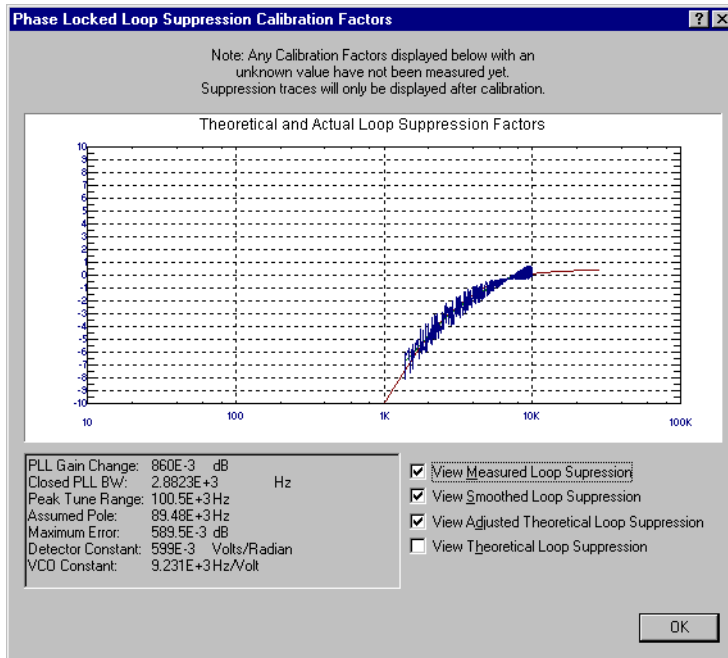

Figure 7-10 SelectingSuppressions
- 2 When the PLL Suppression Curve dialog box appears, select View Measured Loop Suppression, View Smoothed Loop Suppression, and View Adjusted Loop Suppression See Figure 7-10.